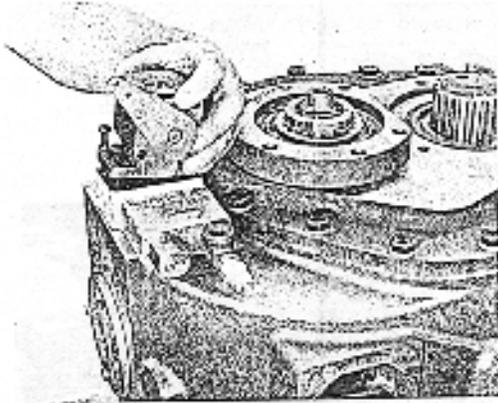

Figure 45. Locating Selector Valve Gasket and Selector Valve.
7. Locate selector valve gasket and selector valve (see fig 45) secure with cap screws and lock washers.